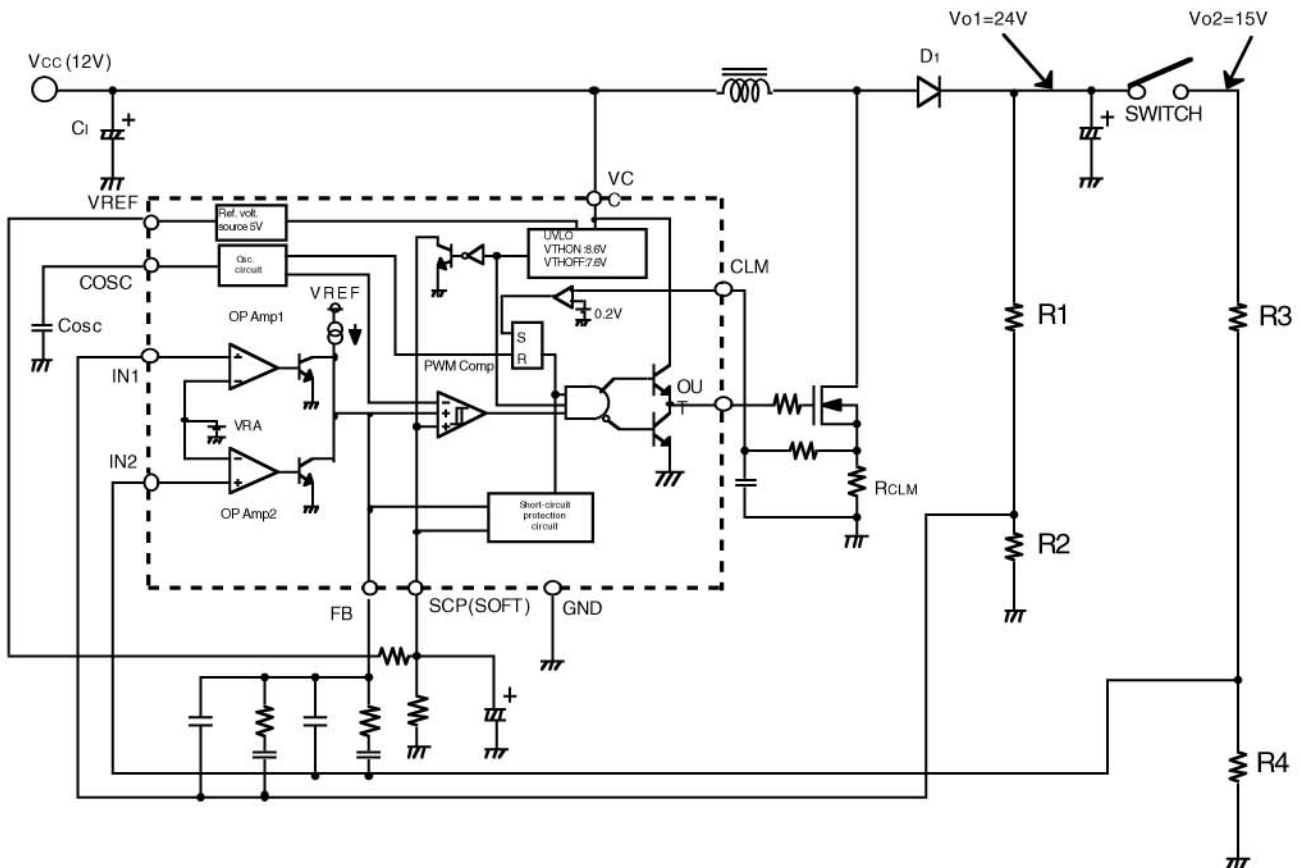

Fig.2 Application Circuit Example
1). In the application circuit in Fig.2, Vo1 is set to 24V and Vo2 is set to 15V for each output voltage.